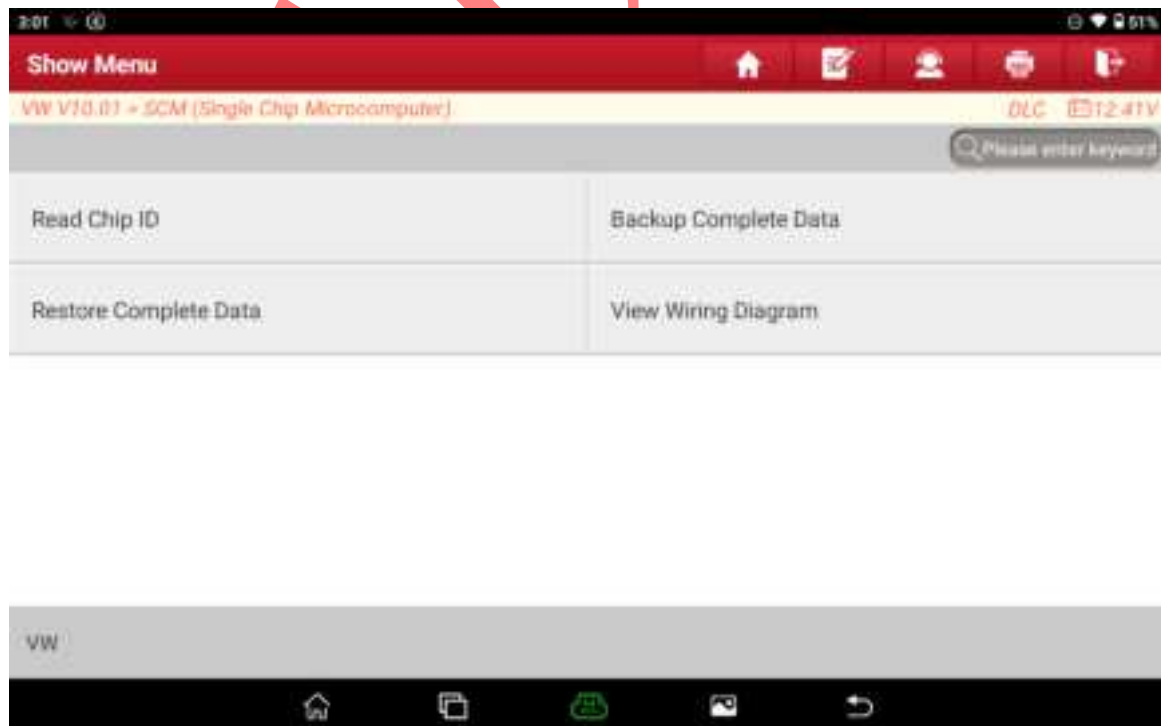

Figure 12
11. After the wiring is successful, choose [Read Chip ID], as shown in Figure 12.